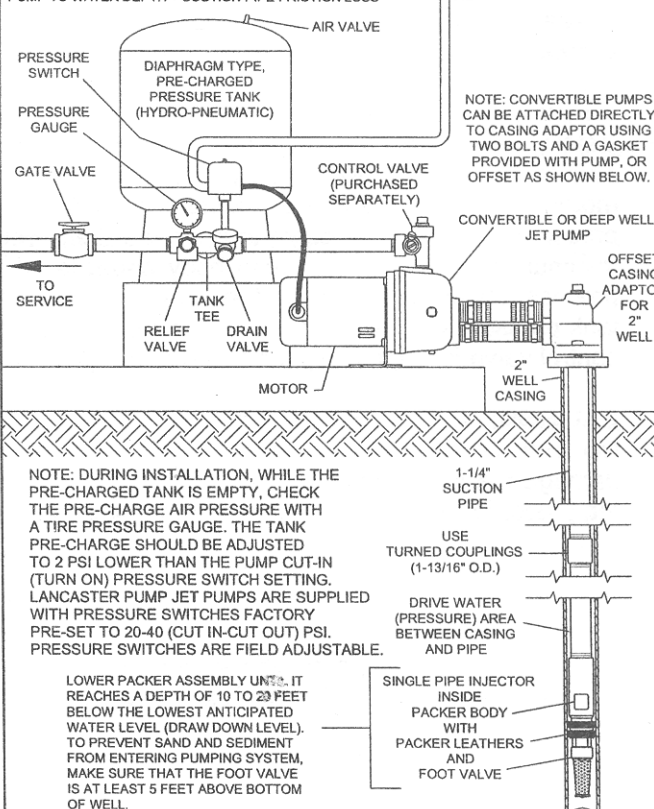

FIGURE 4A-
- A. Dug or Bored Well (or Cistern) - see figures 4A, 4B